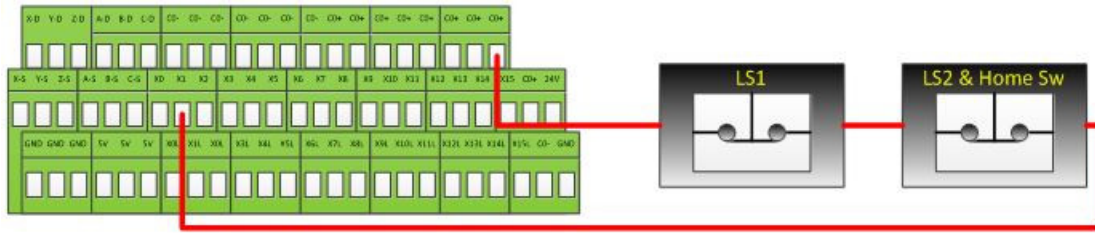

Figure 23 Limit Switches in Series
- Wire the two switches normally closed in series as shown in Figure 23.